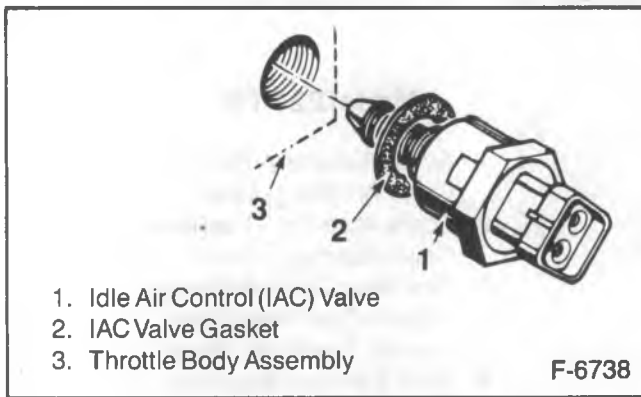

Figure 3—Thread Mounted Type IAC Valve
↔ Remove or Disconnect (Figures 3 and 4)
- On thread mounted units, use a 32mm (1¹/₄") wrench (figure 3).